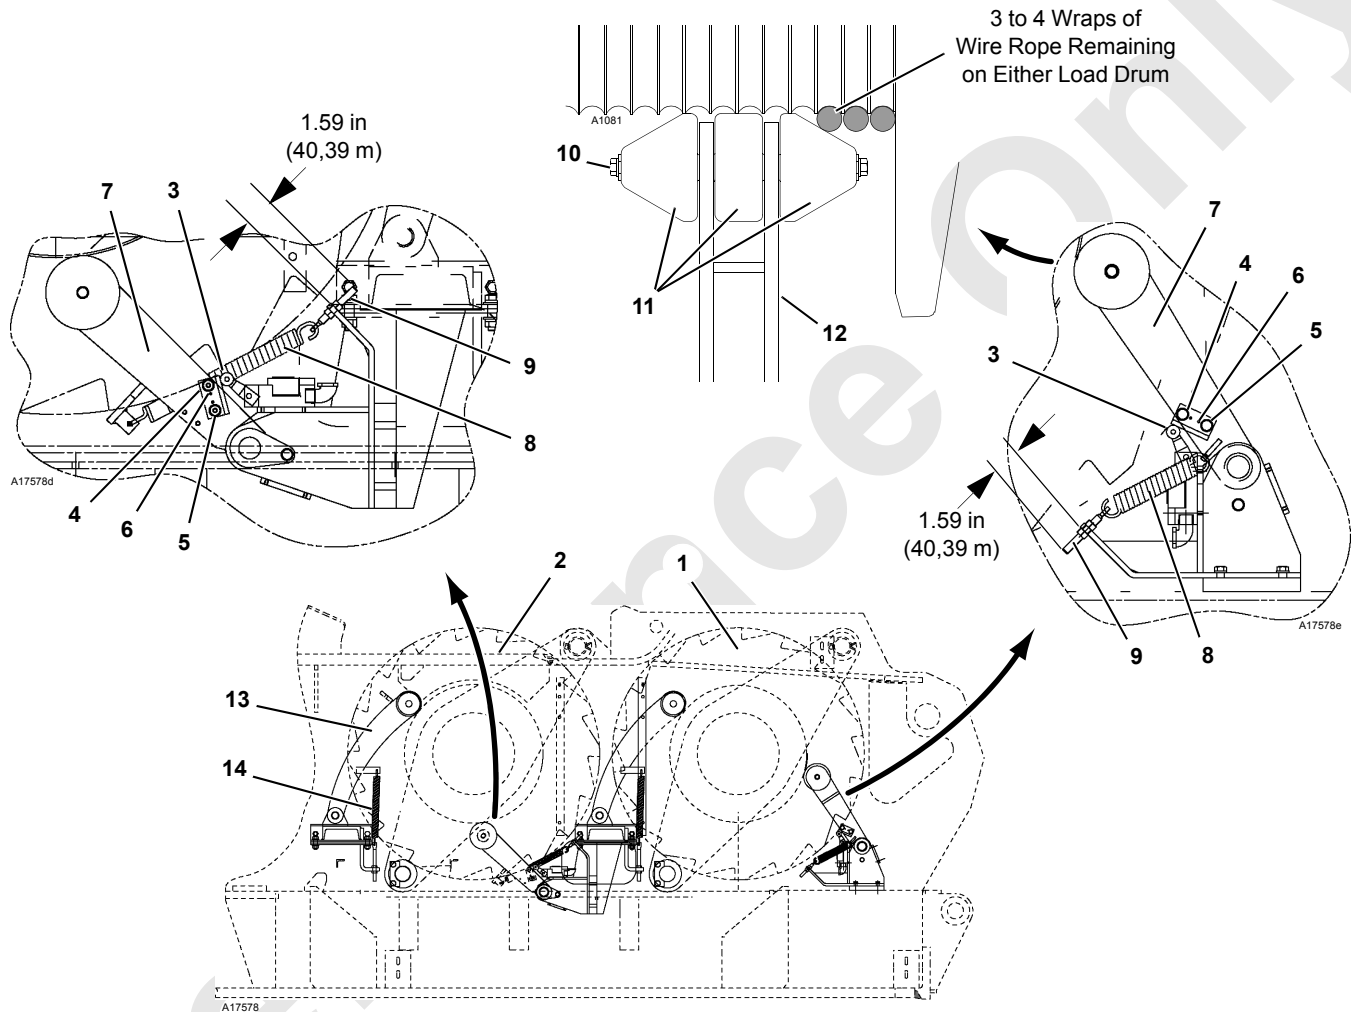

FIGURE 5-2
See Figure 5-2 for the following procedure.
2. Loosen adjusting screws (5) and remove pins (6) from actuator (4) and lever (7). Position actuator so it does not contact limit switch roller (3) when step 3 is performed.
3. Pay out wire rope until bail limit rollers (11) are against bare or lagged drum with three full wraps of wire rope remaining on drum.
6. Adjust return spring eyebolt (9) to dimension shown in Figure 5-2.